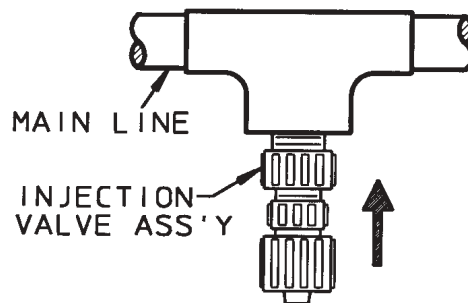

Figure 2.7
- Install the backpressure/injection valve (see Figure 2.7) on the discharge side of the metering pump into a tee that is installed into the water line going to the pressure tank.